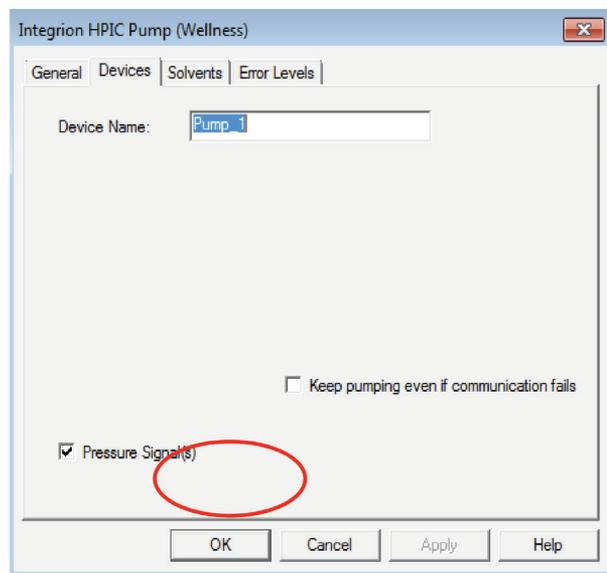

Figure 6. Adding the Dionex Integrion HPIC Pump Wellness Module to the instrument configuration.
3. Select the Devices tab and click on the *Pressure Signal(s)* box (Figure 6).